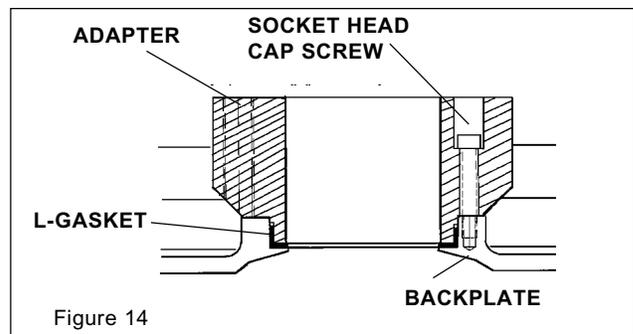

Figure 14
3. Insert L-gasket into the backplate. Insert cartridge adapter into the backplate and tighten with four socket head cap screws. (Figure 14)